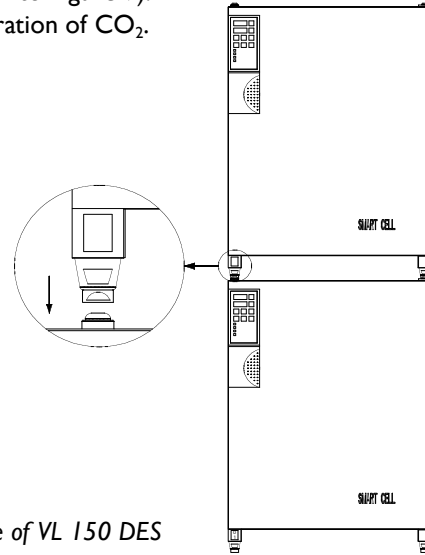

Figure 8: Stacking figure of VL 150 DES
- ⇒ The stacking of incubators (refer to Figure 8).